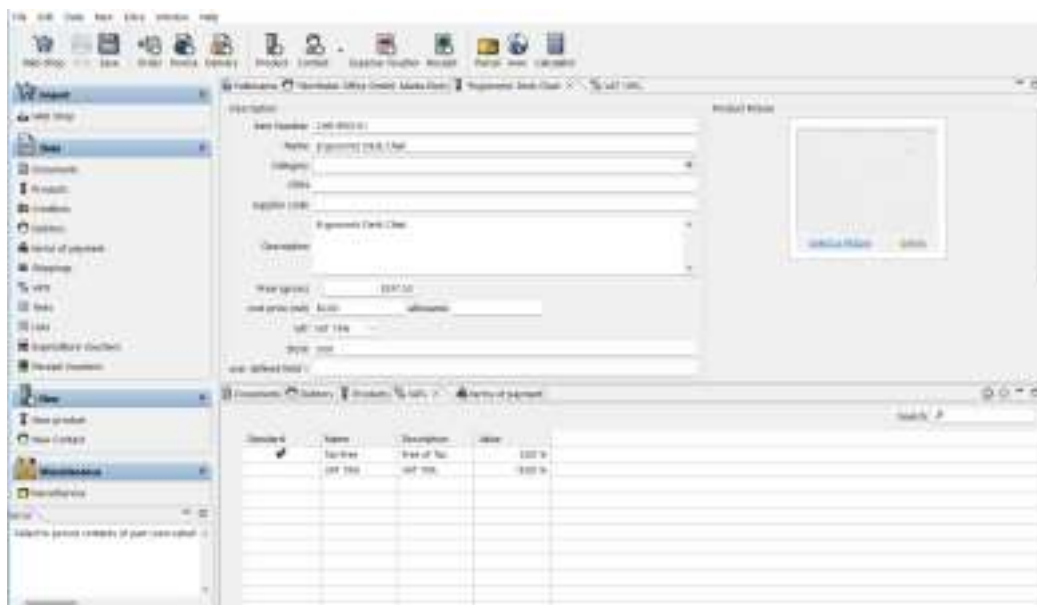

Figure 7. Conditional Product creation with the calculated gross price and required VAT selected.
3.10. Set **cost price (net)** to 0.00, select the exact **VAT**, and set **Stock** to 0.00. Leave **Category**, **GTIN**, supplier code, allowance, **Product Picture**, and user defined field 1 blank or unchanged. See Figure 7.